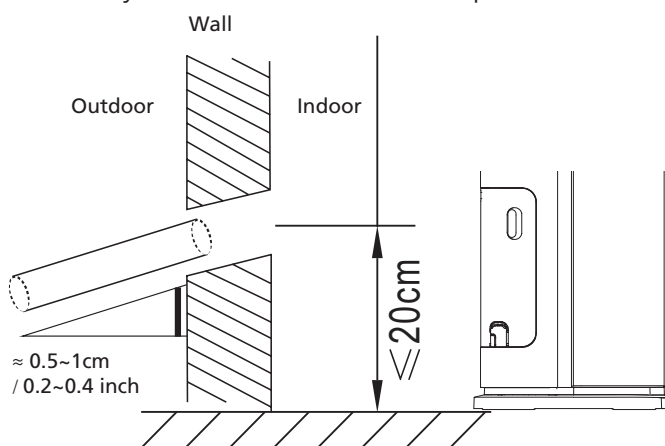

Fig. 6.2
6. Using a 65-mm (2.5") core drill, drill a hole in the wall. Make sure that the hole is drilled at a slight downward angle, so that the outdoor end of the hole is lower than the indoor end by about 1cm (0.4"). This will ensure proper water drainage (See Fig. 6.2). Place the protective wall cuff in the hole. This protects the edges of the hole and will help seal it when you finish the installation process.